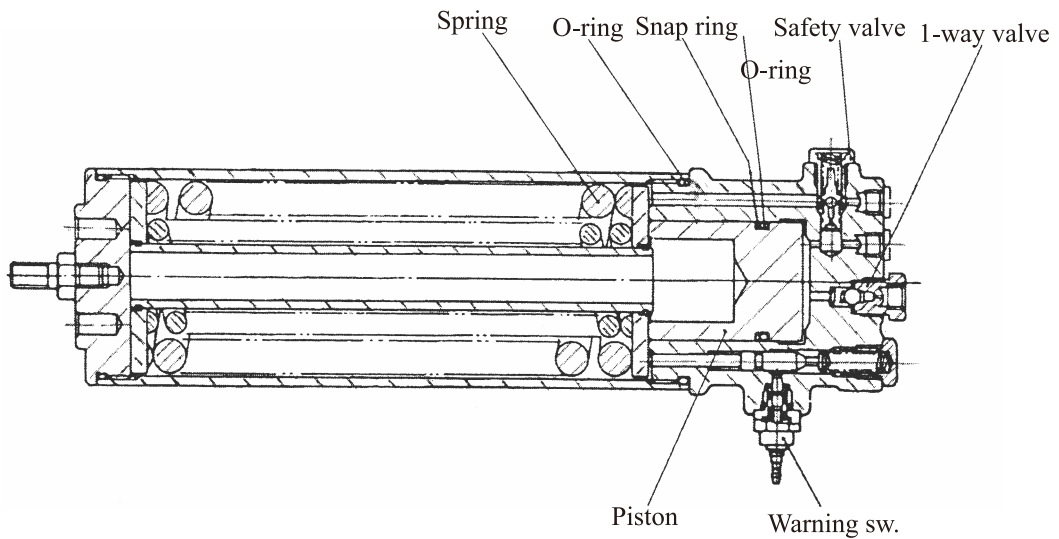

Fig.5-4 Reservoir
5.2.3 Accumulator (See fig. 5-4)